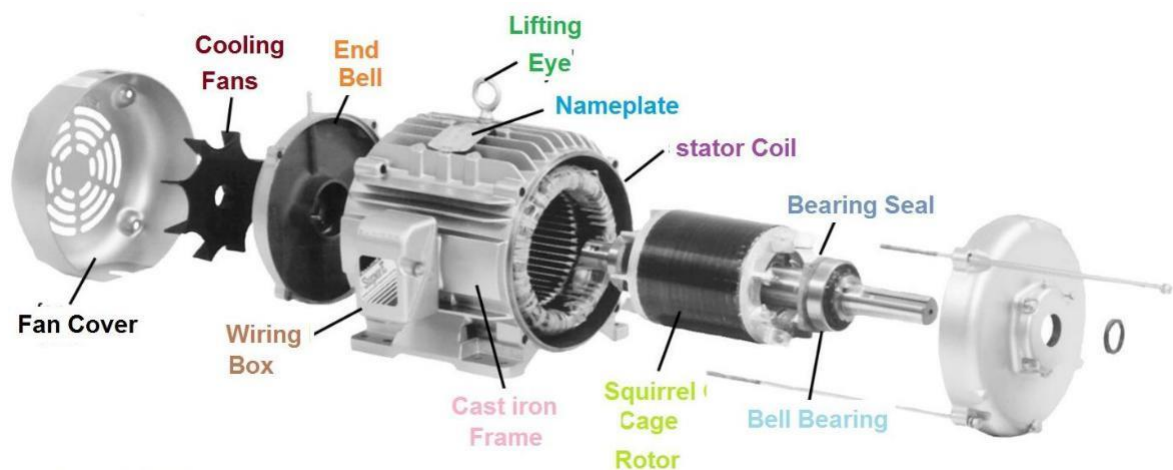

Figure 1 Parts of Squirrel Cage Induction Motor
- b) **Constructional components:** like frame, end shields, shaft, bearings, and fan. These components are shown in figure 1.